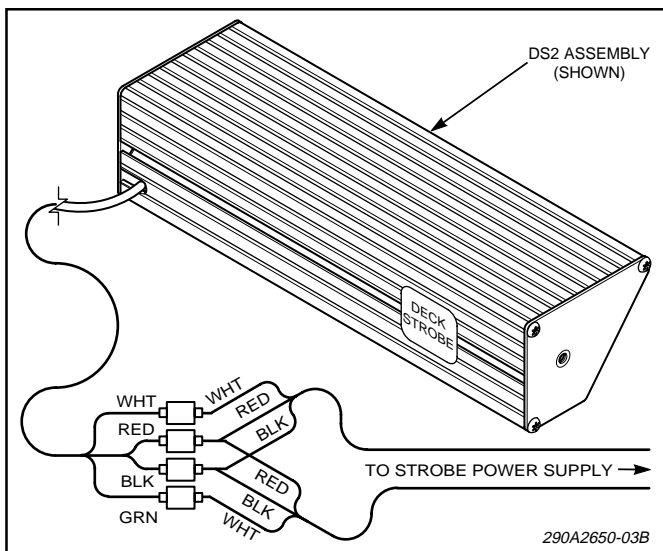

Figure 2.
d. When connecting to Model 602151, connect the cables' conductors as shown in figure 2.